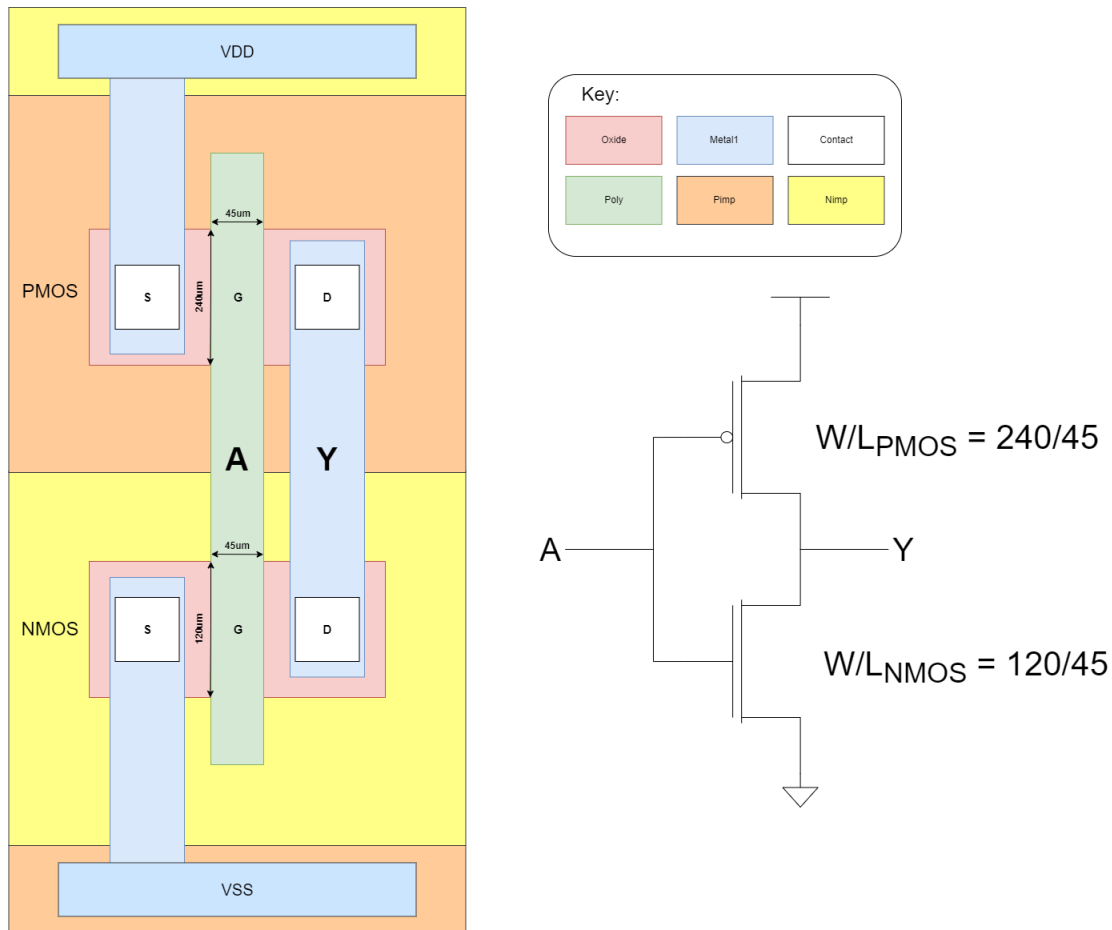

Figure 8: Comparison Between Layout and Schematic
Figure 8 shows the mapping of each layer in the layout to the schematic. Below are a few key highlights:
- The white squares are contacts. Although it is not shown in Figure 8, you need **at least 2 contacts** to connect Metal1 to the oxide region to ensure strong signal transmission. The source and drain of the transistors are formed based on the diffusion across the gate